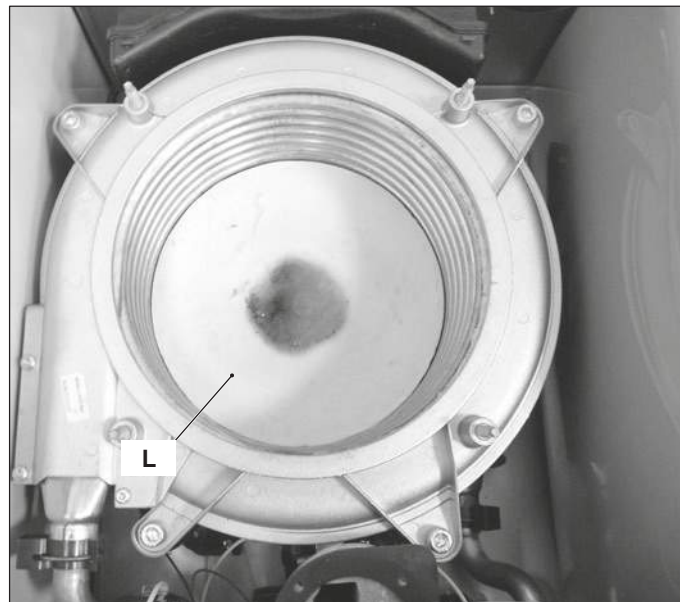

Figure 11.6
- 2 Remove the insulation "L" by pulling it towards the boiler front (Hung it with a screwdriver tip) (Figure 11.6).